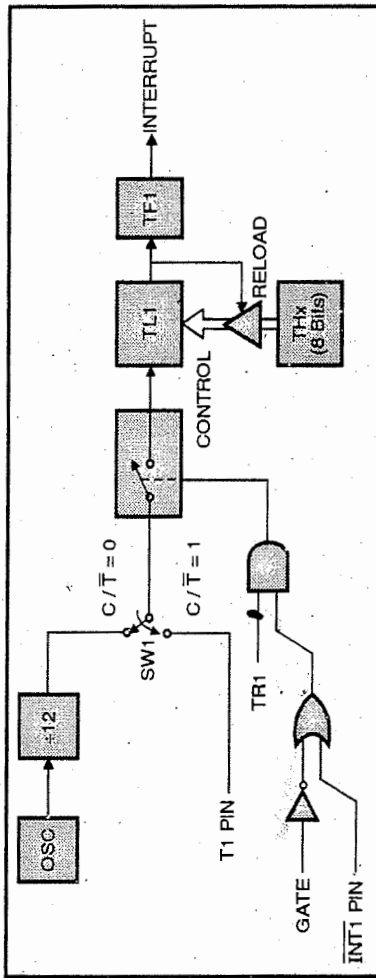

Fig. 1.20.5 : Timer / Counter 1 mode 2 – 8 bit auto reload
- In this mode the Timer / Counter register is configured as an 8 bit counter (TL) with auto reload facility. Fig. 1.20.5 shows Timer / Counter 1 in mode 2. It allows values 00H-FFH to be loaded into TH register.